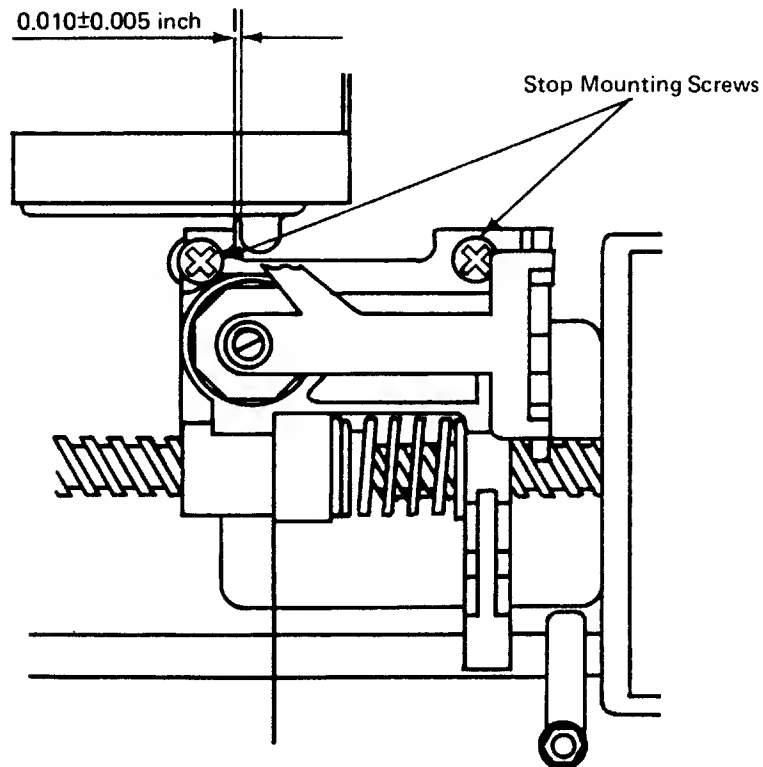

FIGURE 6-10. TRACK 00/39 STOP ADJUSTMENT
- 6.3.3.4 Lift front of drive PCB enough to access the stop adjustment screws. (See Figure 6-10.)